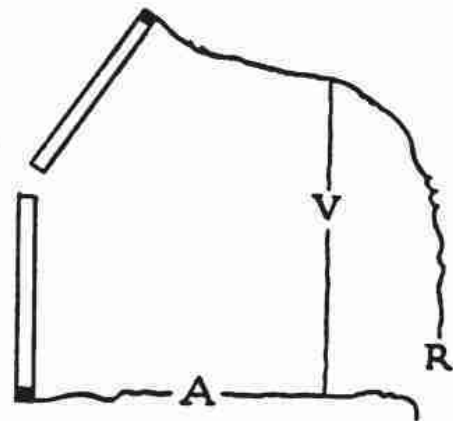

Fig. 99
23. *Arc Lamp*.—We fastened two electric light carbons to the ends of copper wires connected for the 110-volt current. A rheostat, *R* (Fig. 99), in circuit, was set at 6.5 ohms. One lower carbon was fastened into a clamp, and the other was touched to it, and then drawn away about three-eighths of an inch. A very brilliant light was produced. Probably about 1800 candle-power. The ammeter *A* showed 10 amperes, and the volt meter *V* showed 45 volts. $45 \text{ volts} \times 10 \text{ amperes} = 450 \text{ watts}$, 1800 candle-power, 25 watts per candle-power.